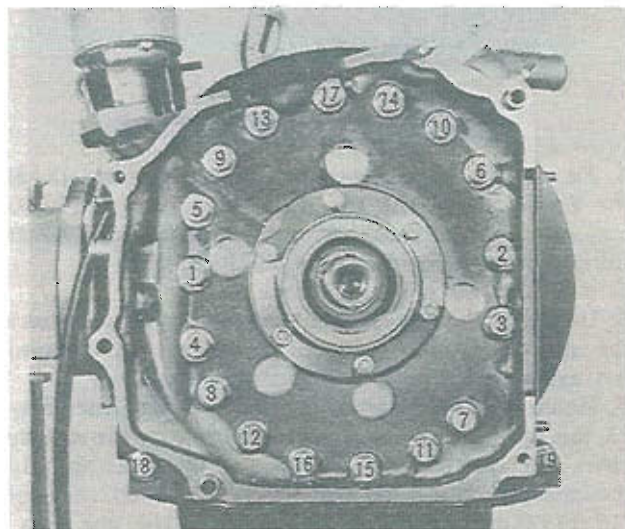

Fig. 1-79 Tension bolt tightening order
3. Fit the tension bolts and tighten the bolts gradually in the order shown in Fig. 1-79. The specified torque is 3.2 ~ 3.8 m·kg (23 ~ 27 ft·lb). Do not tighten the tension bolts at one time.